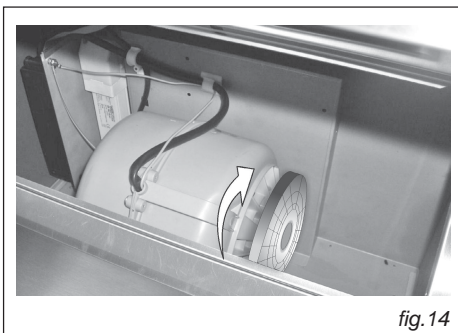

fig.14
- **Replacing the charcoal filter (Fig.14)**
Remove the charcoal filters with a rotating movement, in a clockwise direction (fig. 14).